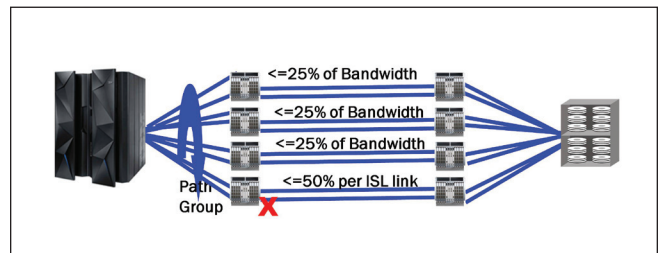

Figure 2: Eight-Way Pathing With Four FICON Fabrics
FICON fabrics is shown in Figure 2. Since a Path Group (PG) has eight links, two links (redundancy) are routed to each of four fabrics per PG. Since mainframe channel cards and open system HBAs contain four or fewer ports, it requires at least redundant channel cards or HBAs to provision the eight paths shown in Figure 2. This lets users deploy redundancy for HA fabrics at yet another level of their infrastructure.
Risk of loss of bandwidth is the motivator for deploying fabrics such as those shown in Figure 2. Here, the four fabrics limit bandwidth loss to no more than 25 percent if a fabric were to fail and couldn't be fully recovered by the other fabrics. In this storage networking architecture, each fabric can run at no more than about 85 percent busy, so if a failover occurs, the remaining fabrics can accept and handle the full workload without overutilization. Even with entropy, it would take a tremendous amount of growth to overwhelm the total availability and bandwidth capabilities of this deployment.